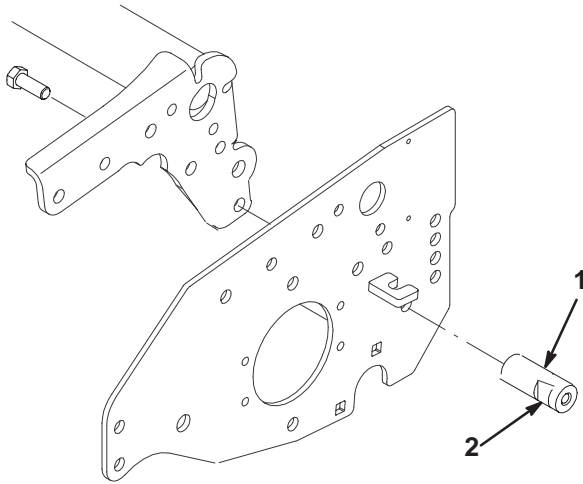

Figure 6
6. Mount the threaded spacer to reel frame and side plate with a 3/8-16 x 1" lg. flange bolt (9/16" wrench) (Fig. 6).